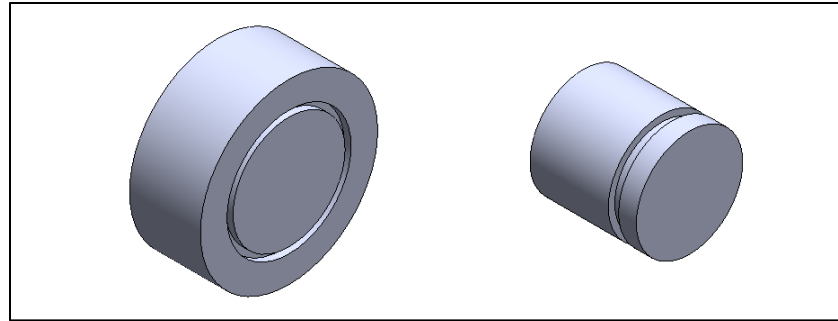

Figure 7.3
- The groove in which the O-Ring sits is called the “**gland**” (fig 7.3)